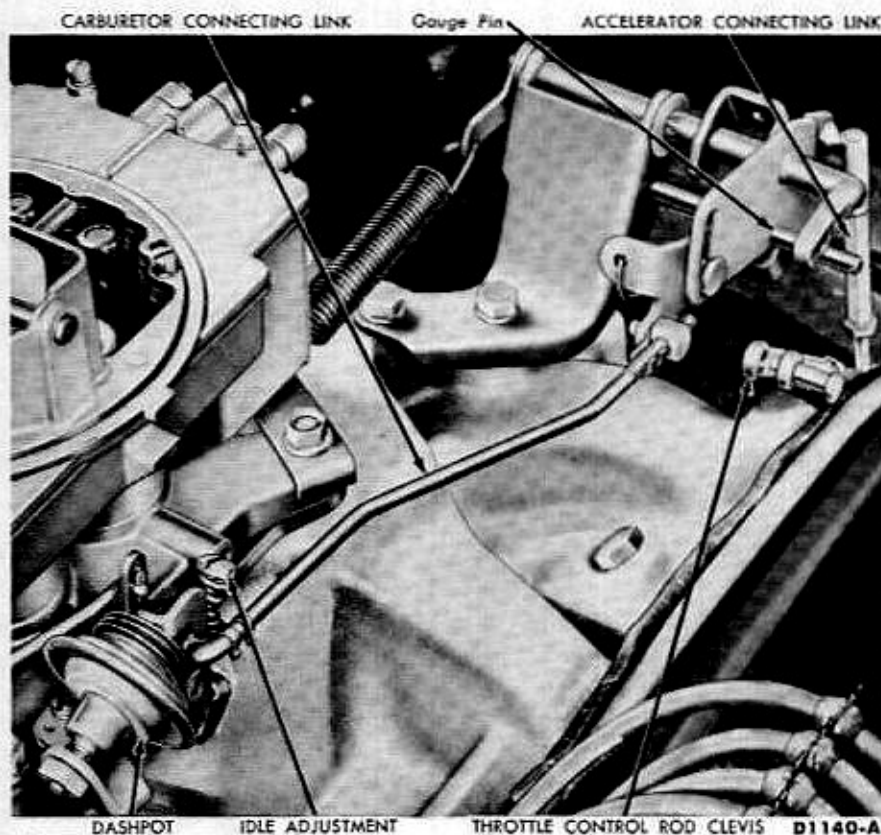

FIG. 2—Throttle Linkage
The carburetor throttle lever must be against the idle adjusting screw (Fig. 2) at 450-475 rpm in D1 or D2. To make sure that the carburetor throttle lever is against the adjusting screw, make the following checks:
On cars with an external type dashpot (Fig. 2), check the clearance between the dashpot plunger and the throttle lever. Bottom the dashpot plunger against its spring, and then adjust the clearance between the bot-
8. Insert a gauge pin ($\frac{3}{4}$ inch drill rod) through the gauging holes as shown in Fig. 2.